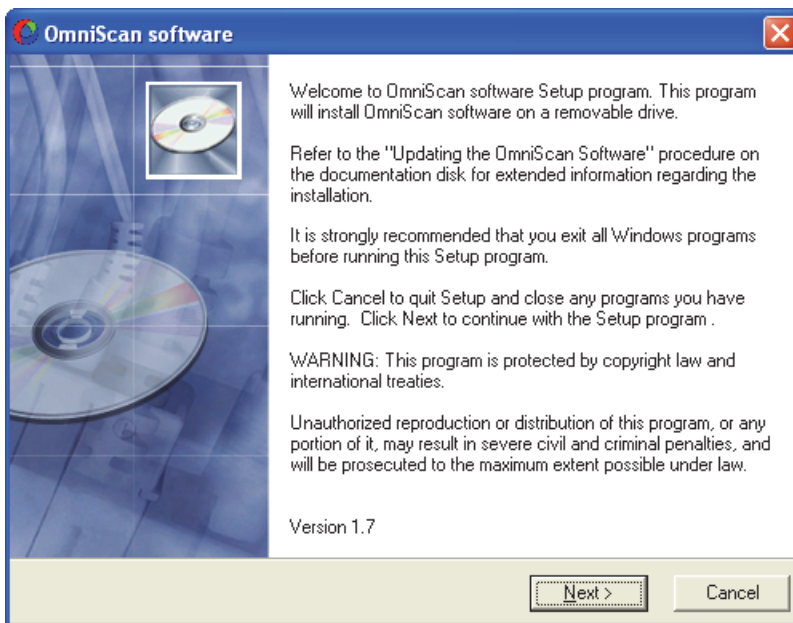

Figure 4-13 The OmniScan software welcome dialog box
3. In the first screen of the **OmniScan software** setup program, click **Next** (see Figure 4-13 on page 75).